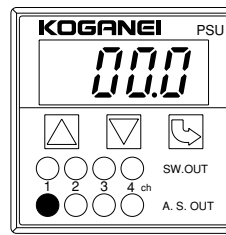

Figure 2
- The pressure of the selected channel is indicated in the LED display. (The selected channel's A.S.OUT LED (green) lights up. See Figure 2.)